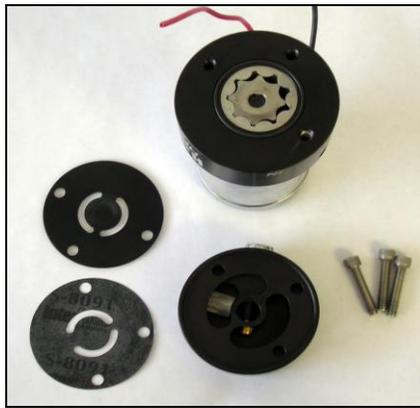

Figure 2
3. Hold the pump with the motor to the bottom and remove the bottom housing assembly, gasket, o-ring and gerotor cover plate making sure the gerotor set does not fall out (**Figure 2**).